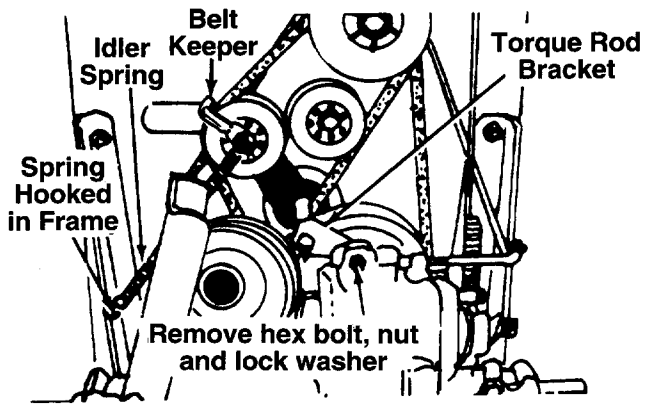

FIGURE 15.
3. Unhook the idler spring from the lawn tractor frame. See figure 15. Loosen the bolt which secures the belt keeper to the idler pulley.